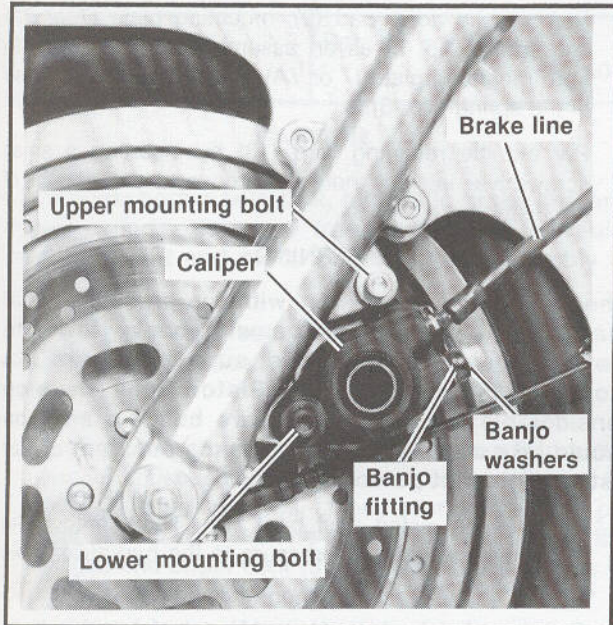
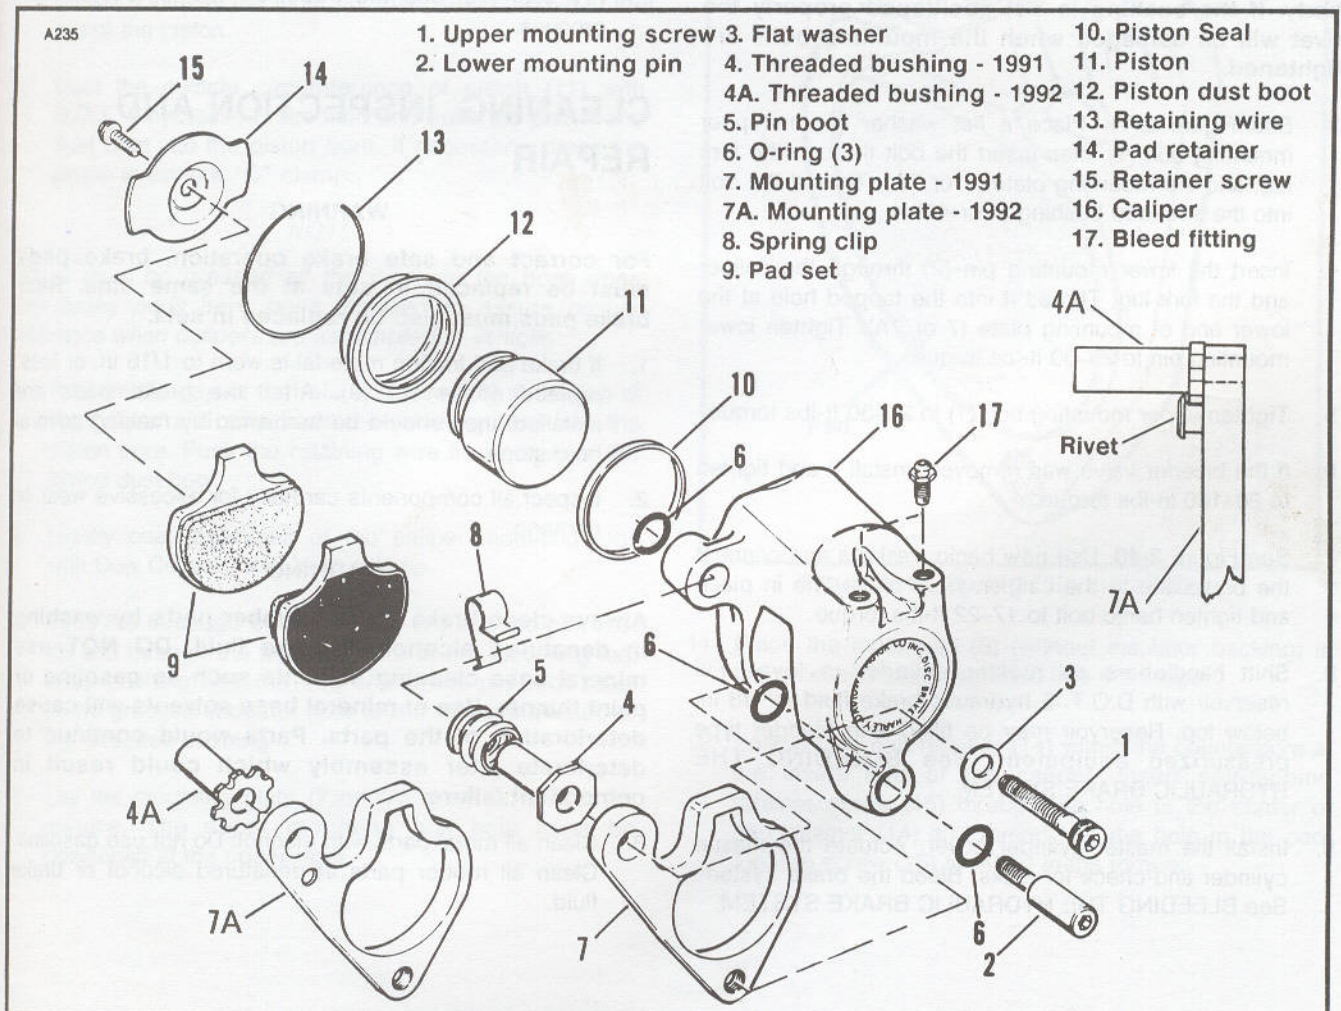

Figure 2-40. Front Brake Caliper Mounting
Figure 2-41. Front Brake Caliper
(Figure 2-40)
INSTALLATION - FLSTC/F, FXSTC (Figure 2-40)
1. Coat the outside diameter of lower mounting pin (2) with Dow Corning MOLY 44 grease.
2. See Figure 2-40. Position the caliper with the disc between the friction pads. Align the two mounting holes in the caliper with the mounting lugs on the fork.
See Figure 2-41. The threaded bushing's flange must go **UNDER** the rivet head during assembly. At the same time, one of the U-shaped notches on the outer edge of the bushing flange must engage the rivet body. If the bushing is not positioned properly the rivet will be damaged when the mounting bolts are tightened.
3. See Figure 2-41. Place a flat washer (3) on upper mounting bolt (1), then insert the bolt through the fork lug, and the mounting plate (7 or 7A). Thread the bolt into the threaded bushing (4 or 4A).
4. Insert the lower mounting pin (2) through the caliper and the fork lug. Thread it into the tapped hole at the lower end of mounting plate (7 or 7A). Tighten lower mounting pin to 25–30 ft-lbs torque.
5. Tighten upper mounting bolt (1) to 25–30 ft-lbs torque.
7. See Figure 2-40. Use new banjo washers and connect the brake line to the caliper. Hold brake line in place and tighten banjo bolt to 17–22 ft-lbs torque.
DISASSEMBLY – ALL MODELS (Figure 2-41)
ASSEMBLY – ALL MODELS (Figure 2-41)
9. See Figure 2-41. Take the pad (9) that has the insulator backing, and place it on top of the spring clip with the lower end of the pad slightly entering the opening of the mounting plate. With the pad centered within the mounting plate and the insulated back facing downward, push down on the pad until it is against the flat surface and is held firmly by spring tension from the spring clip.
10. Insert the outer pad (9), mounting plate (7 or 7A) and spring clip (8) assembly into place with the backside of the pad against the face of the piston.